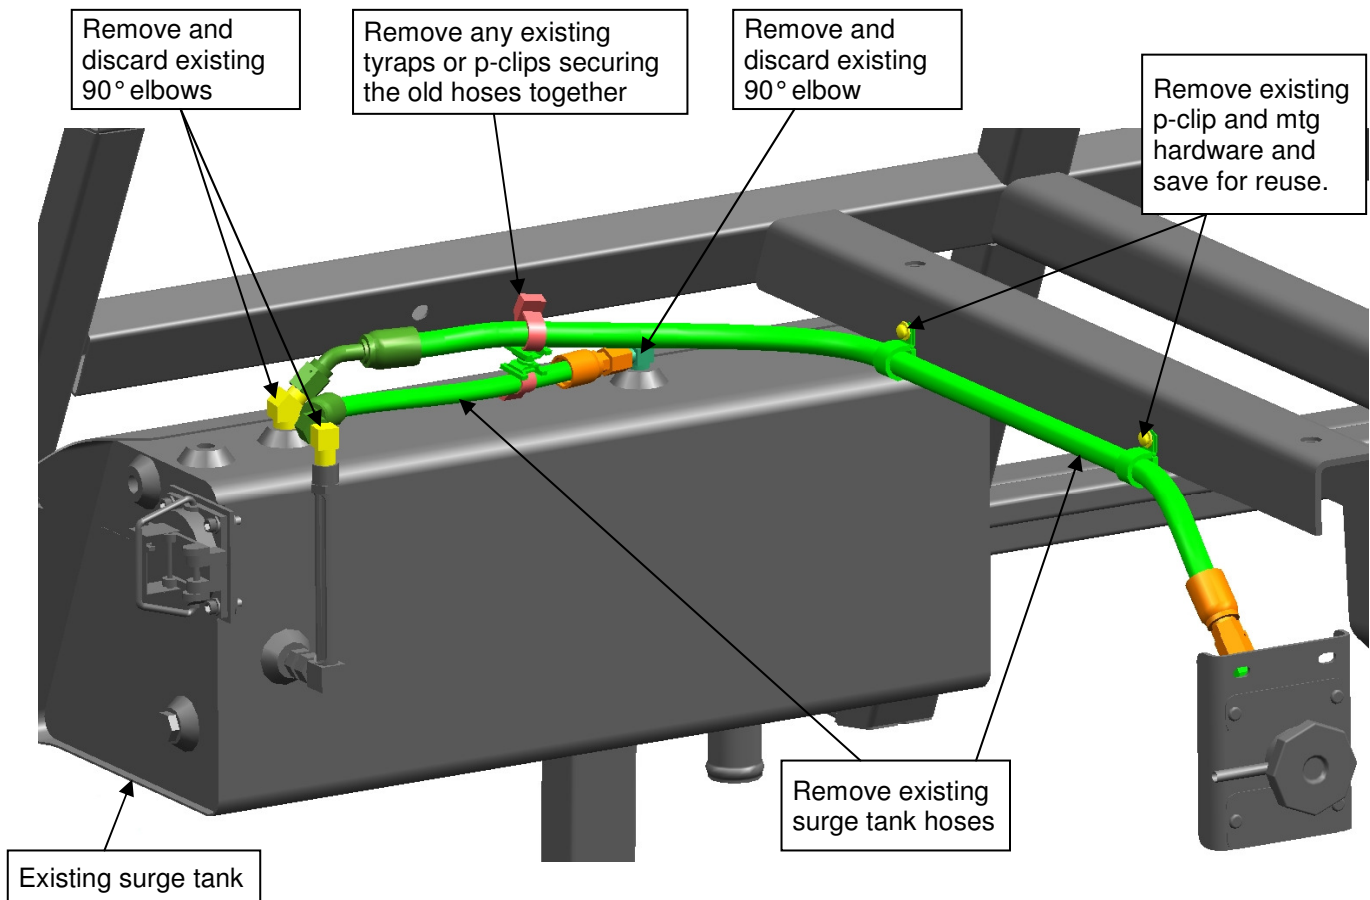

Figure 1: Remove Surge Tank Hose Assemblies
4. Remove the p-clips (2 places) that support the hose assy from between the surge tank and the remote radiator cap and set aside for reuse. Cut and discard any tyrapts that are securing the hose assy to other hose assemblies or frame structure. See Figure 1.
5. Remove existing hose assembly (NF p/n 431607) from between the surge tank and the remote radiator cap and discard, See Figure 1.
6. Remove existing hose assembly (NF p/n 427005) from between the surge tank and the coolant site glass gauge and discard. See Figure 1.
7. Remove existing 90° elbow (NF p/n 6400125, 2 places) and 45° elbow (NF p/n 8410370) from the top of the surge tank and discard. See Figure 1.